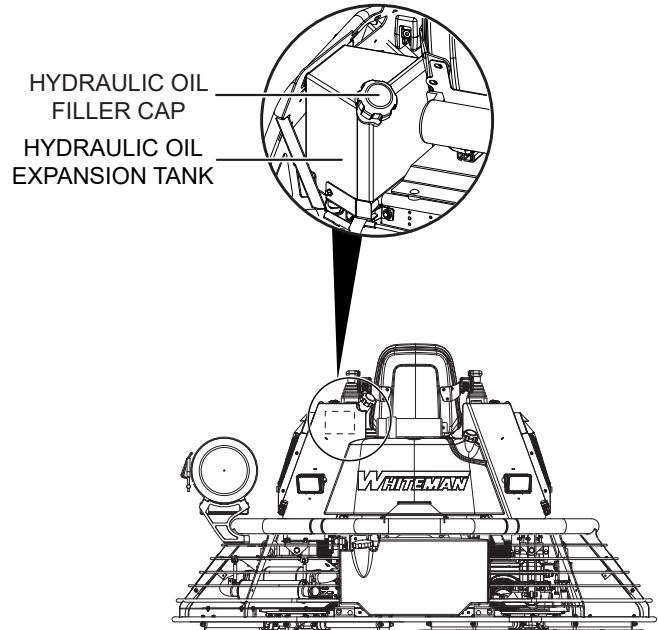

Figure 12. Hydraulic Oil Expansion Tank
1. Check the hydraulic oil condition through the *hydraulic oil expansion tank fill cap* (Figure 12). Replace hydraulic oil if dirty.